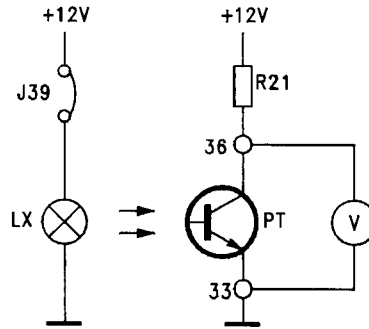

fig.B15.6
- Connect jumper J39 and the voltmeter as in figure B15.6